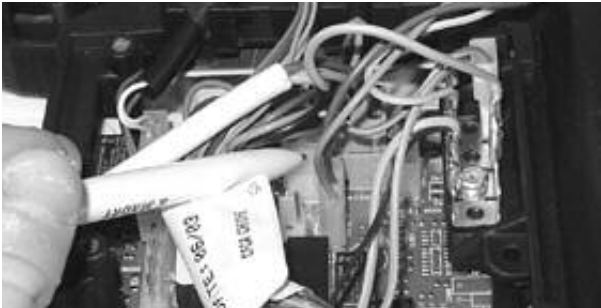

Fig. 88
4. Remove the pump plug from the control board and earth plug from the earth socket (see Fig. 88);